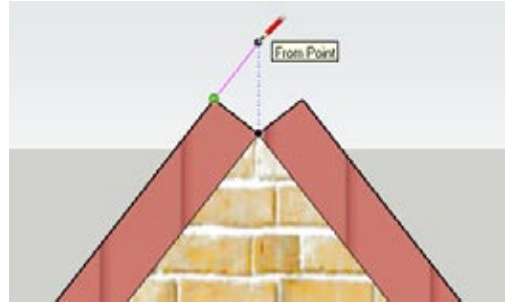

Figure 5-7
7. You have just “reminded” SketchUp of the geometry of that edge and point, so SketchUp can produce inferences from them. Move the cursor straight up from the valley point, keeping the dotted blue inference line. Stop when you also see a magenta preview line starting from the endpoint of the angled edge you hovered over (Figure 5-7). This means that the point you are about to click is the endpoint of the extension of that edge, and is also directly above the valley point. This is a *double constraint*.